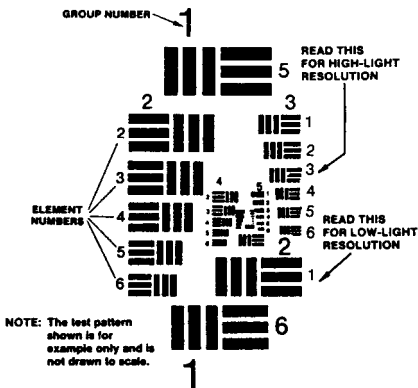

Figure 2-2. TS-4348/UV Test Set Pattern.
(1) Place the HIGH/LOW switch on the test set to the LOW position.
(2) Turn off the room lights and let your eyes adjust to the dark for approximately 10 minutes.
(3) Turn on the test set by setting the "II/III" switch to the "II" position.
(4) Turn on the binocular by flipping the power pack's ON/OFF/ON switch to the appropriate position.
(5) Look through the appropriate monocular and view the projected pattern (fig. 2-2). When using the TS-4348/UV, use the same focusing procedures described in paragraph 2-6c to obtain the best focus.
(7) The NVG must be able to resolve Group 2. Element 1 under low-light conditions to pass the test. If the monocular does not pass the test, send the NVG to maintainer for repair.
(8) Repeat steps (5) through (7) for the other monocular.
(9) Flip the HIGH/LOW switch to the HIGH position.
(10) Again, look through the monocular and view the projected pattern (fig. 2-2). If necessary, focus the objective lens and then the eyepiece of the monocular to obtain the sharpest image.
(11) Determine the group number and element of the smallest pattern resolvable.